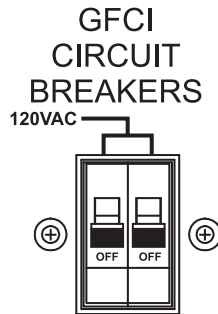

Figure 71. GFCI Circuit Breakers (OFF)
2. Place the **GFCI circuit breakers** in the **OFF** position (Figure 71).